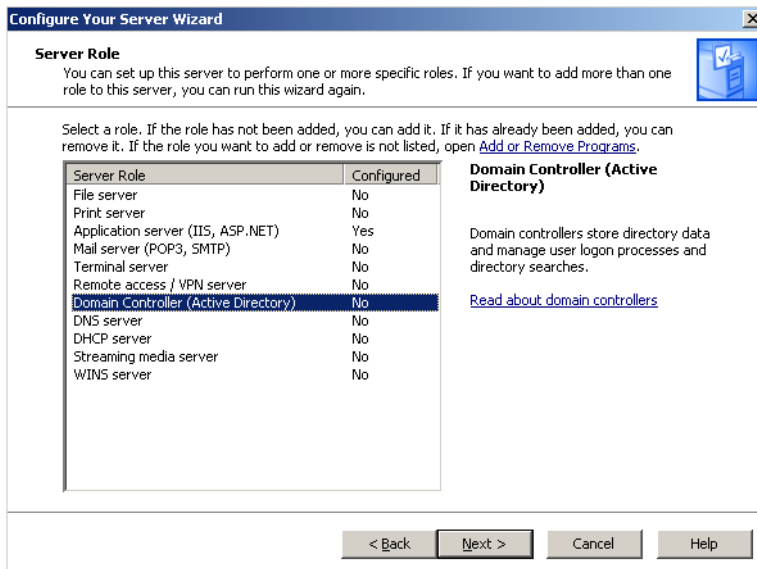

Figure D-4 Server Role dialog
5. From the **Server Role** dialog shown in figure D-4, select the **Domain Controller (Active Directory)** item, then click the **Next** button.